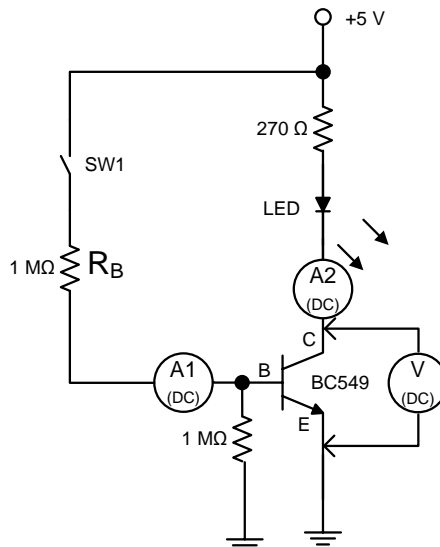

Figure 5.
5.1 Build the circuit as shown in Figure 5. Press SW1 and measure i_B , i_C and V_{CE} using multimeter. Also measure V_{LED} (voltage across LED). Observe the brightness of LED and fill the table with a tick mark (✓).
1. What is the name of transistor configuration shown in Figure 5? _____